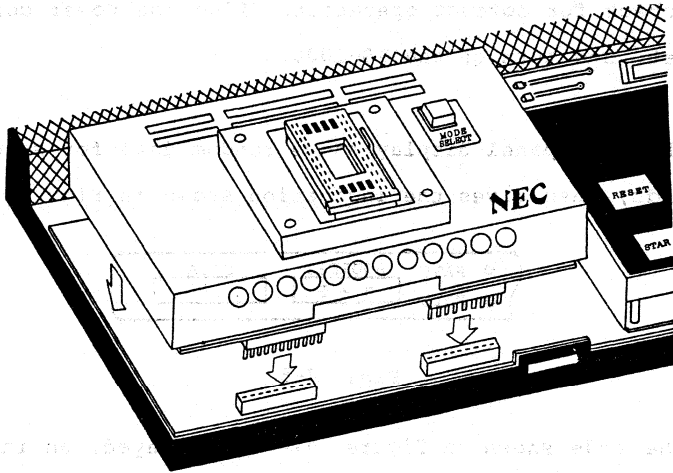

Fig. 4-4
(4) Connect PG-1003 to PG-1000 as shown in Figure 4.4 below.